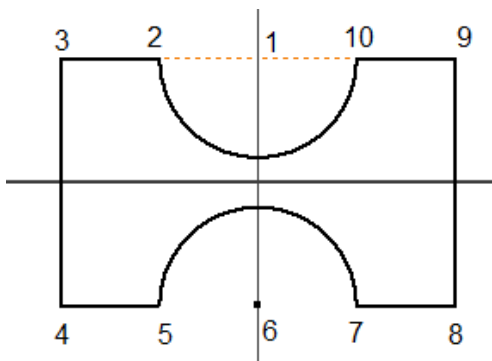

Figure 2-92 Sketch showing different points
- Press the Tab key and enter **0** in the X coordinate edit field of the Dynamic Input. Again, press Tab and enter **0** in the Y coordinate edit field. Next, press Enter to specify the center of the arc; the center of the arc (Point 1) is created, as shown in Figure 2-92, and you are prompted to specify the start point of the arc.
In Figure 2-92, the major and minor grid lines, and the triad have not been displayed for better display of the sketch and the imaginary lines.
3. Enter **12** in the length input field, press Tab, enter **90** in the angle input field of the Dynamic Input, and press Enter; the first point (Point 2) on the arc is defined, refer to Figure 2-92. Now, you need to specify the endpoint of the arc.
9. Move the cursor right, enter **12>Tab>90>Enter**. Figure 2-92 shows the different points of sketch for Tutorial 2.
11. Enter **24** in the length input field, press Tab, enter **90** in the angle input field in the Dynamic Input, and press Enter; the endpoint (Point 7) on the lower arc is defined, refer to Figure 2-92. Now, you need to specify the center point of the arc.